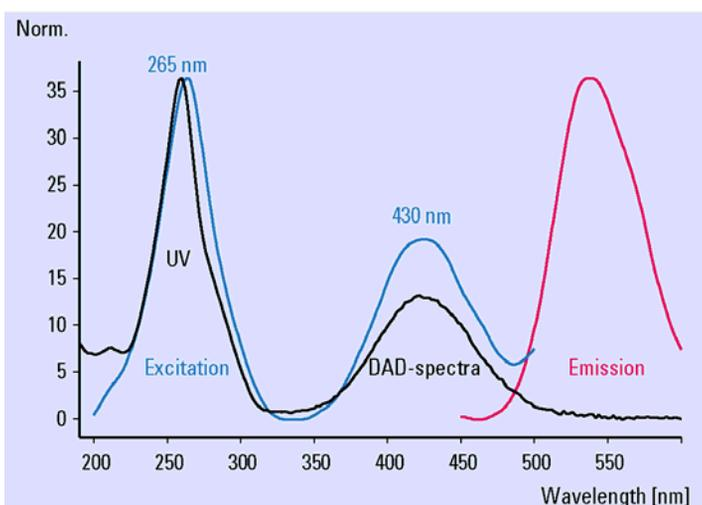
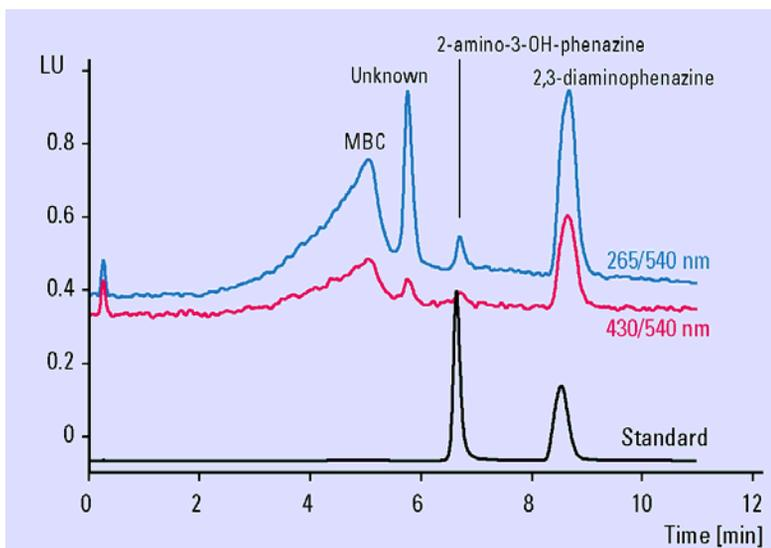

Figure 33 UV-spectrum and fluorescence spectra for 2,3-diaminophenazine (DAP)
Figure 34 Qualitative analysis of MBC (2-benzimidazole carbamic acid methylester) and impurities
The example is taken from the quality control of carbamates. Samples are analyzed for the impurities 2,3-diamino-phenazine (DAP) and 2-amino-3-hydroxyphenazine (AHP). Reference samples of DAP and AHP were analyzed with diode array and fluorescence detection. Figure 9 shows the spectra obtained from both detectors for DAP. The excitation spectrum of DAP is very similar to the UV absorption spectrum from the diode array detector. Figure 34 on page 73 shows the successful application of the method to a carbamate sample and a pure mixture of DAP and AHP for reference. The column was overloaded with the non-fluorescent carbamate (2-benzimidazole carbamic acid methylester/MBC) to see the known impurities, AHP and DAP.
**Table 11** Conditions for Figure 33 and Figure 34 on page 73